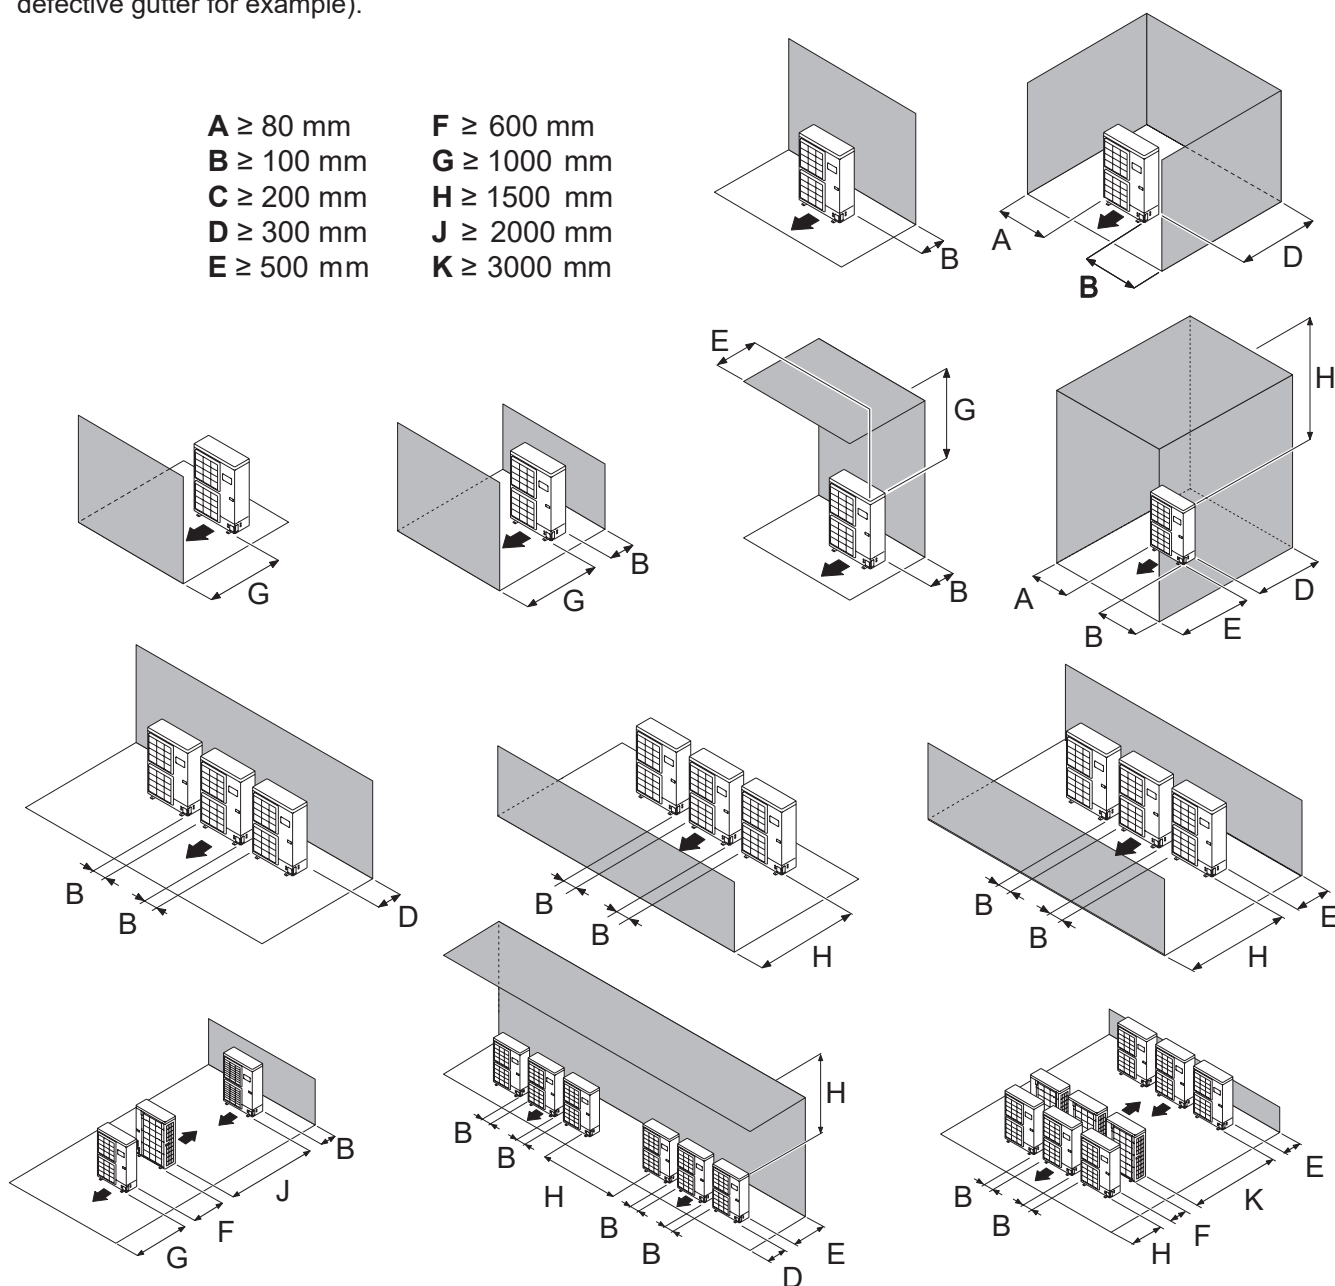

fig. 13 - Minimum installation clearances around the outdoor unit (all models)
- The unit must be easily accessible for future installation and maintenance work (fig. 13).
- Nothing should obstruct the air circulation through the evaporator and out from the fan (fig. 13).